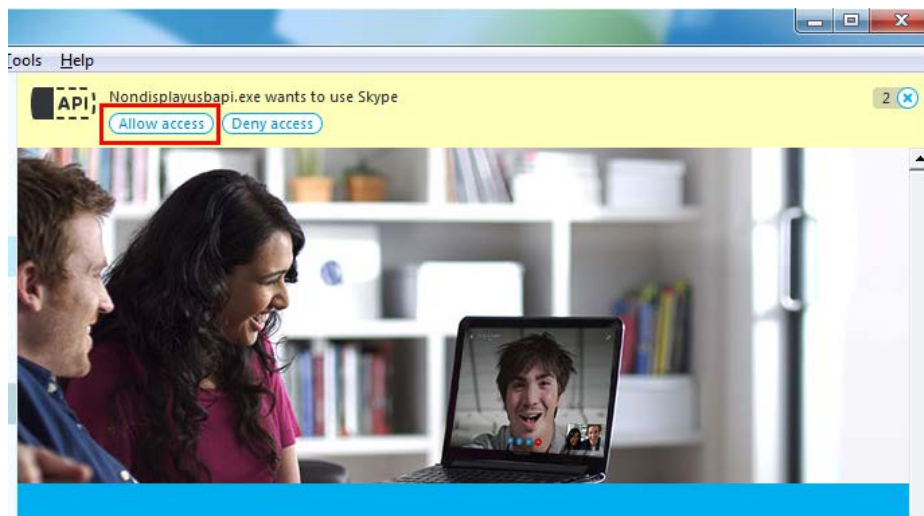

Figure 3-9: Allow API Access
Step 4: Launch Skype. Press the **Allow access** button on Skype (**Figure 3-9**) to allow handset API access.